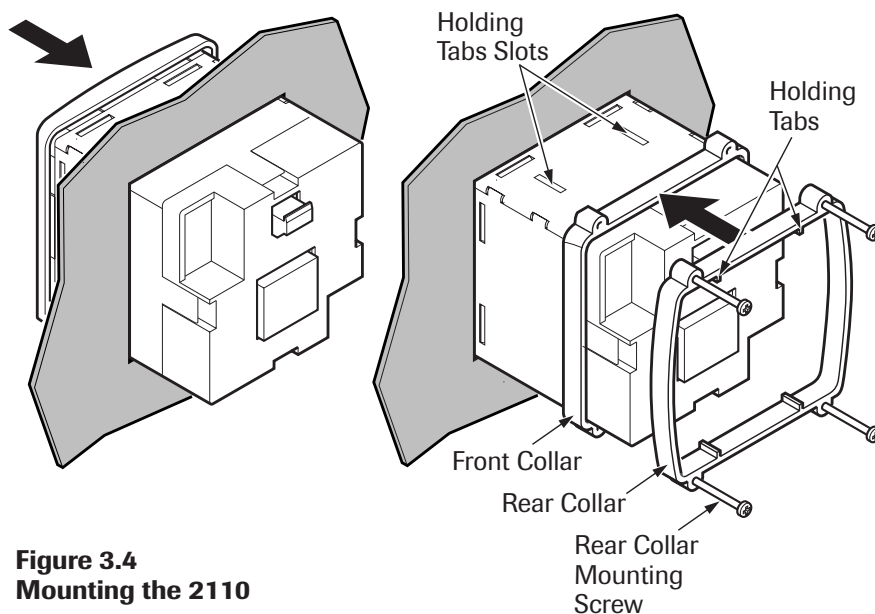

Figure 3.4
2. Insert the unit into the mounting hole as shown in Figure 3.4.
4. Slide the rear mounting collar onto the back of the controller until the holding tabs securely engage with the holding tab slots in the controller housing (see Figure 3.4).